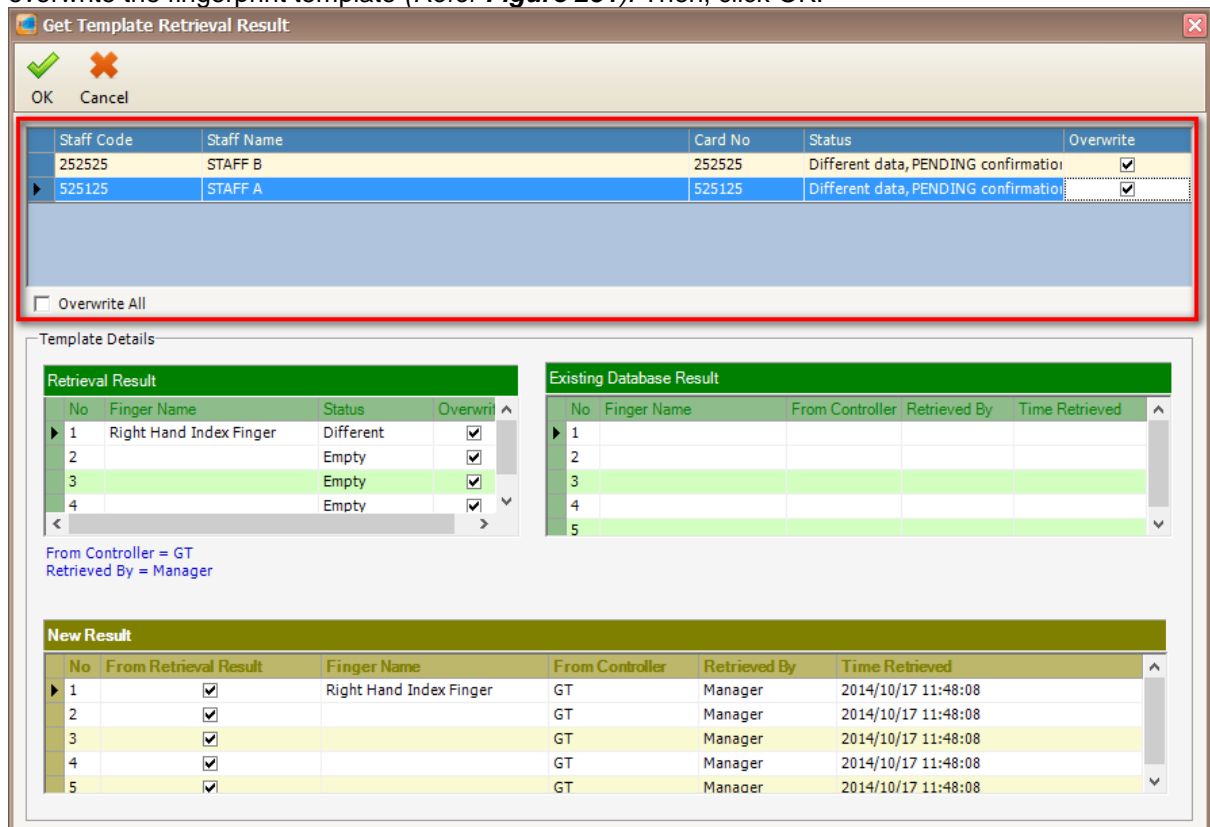

Figure 251 - Get Template Retrieval Result
4. A Get Template Retrieval Result window will be shown. You need to tick the checkboxes to overwrite the fingerprint template (Refer Figure 251). Then, click OK.